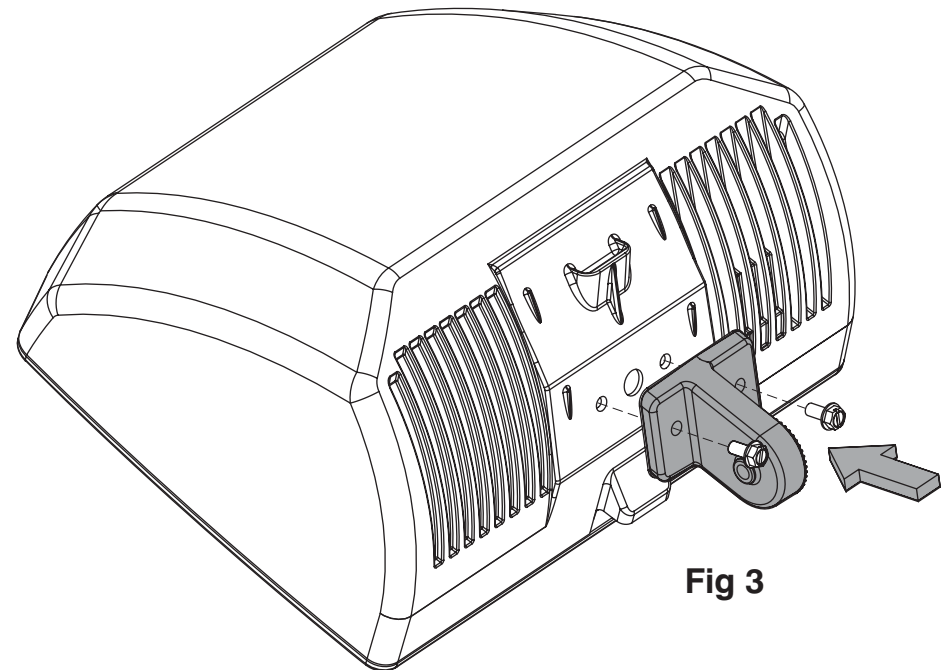

Fig 3
- 3 Attach knuckle arm with supplied bolts. On FPS and FPM fixtures tighten the 1/4-20 x 7/8" bolts to 55-65 In lbs. On FPL fixtures tighten the 3/8-16 x 1" bolts to 180-200 In lbs. (Fig 3)